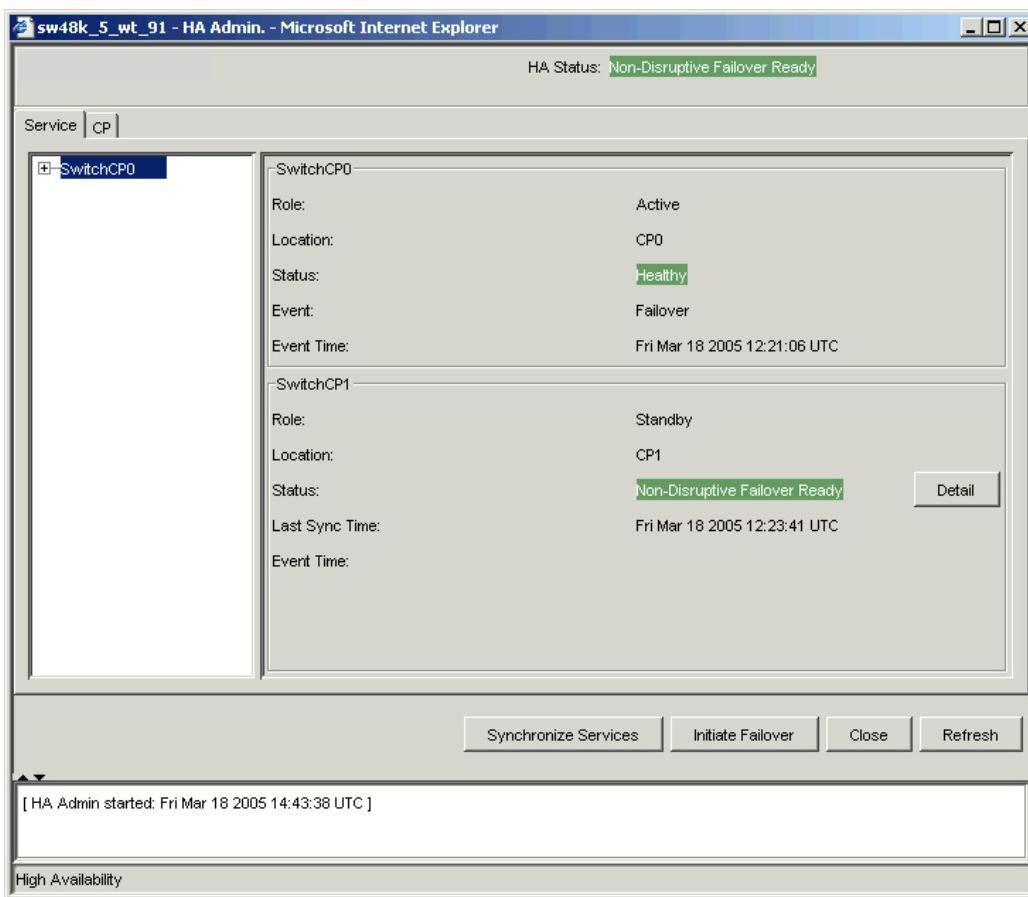

Figure 12 High availability mode
- The HA Admin module is displayed, as shown in Figure 12.